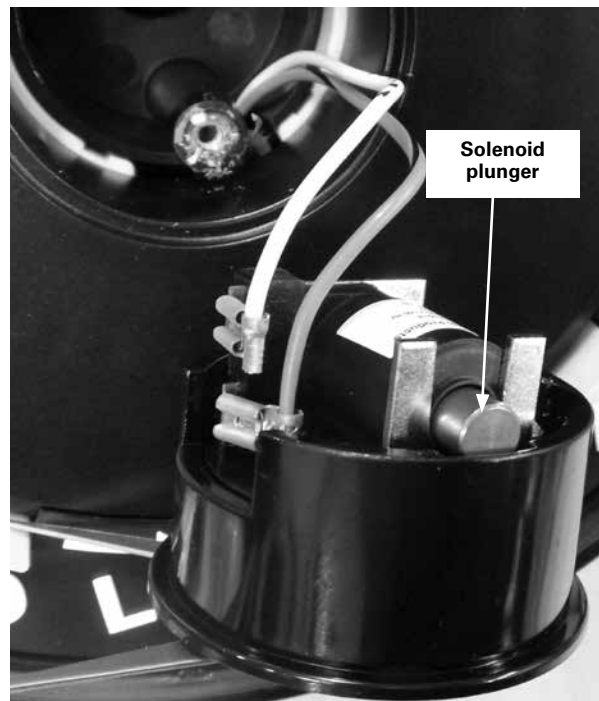

Figure 15. Solenoid plunger
- Align the solenoid plunger of the DHR solenoid module with the cutout slot in the position indicator housing. See Figures 15 and 16.